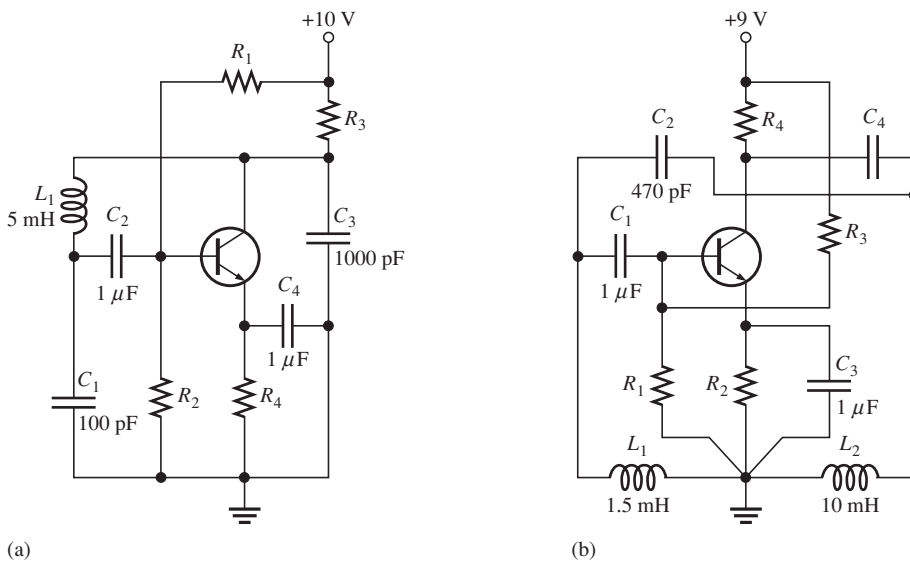

FIGURE 10–51
13. Determine what the gain of the amplifier stage must be in Figure 10–52 in order to have sustained oscillation.